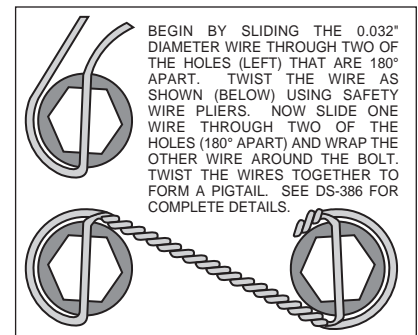

Figure 4. Safety Wire Diagram
- Attach rotor adapter (10) to rotor (11) using six bolts (12). Apply red *Loctite*® 271 to the threads and torque bolts (12) to 25 ft-lb. For an added measure of security, the bolts may be safety wired using standard 0.032 inch diameter stainless steel safety wire as shown in Figure 4. Please refer to Wilwood's data sheet DS-386 (available at www.wilwood.com/Pdf/DataSheets/ds386.pdf) for complete safety wire installation instructions.